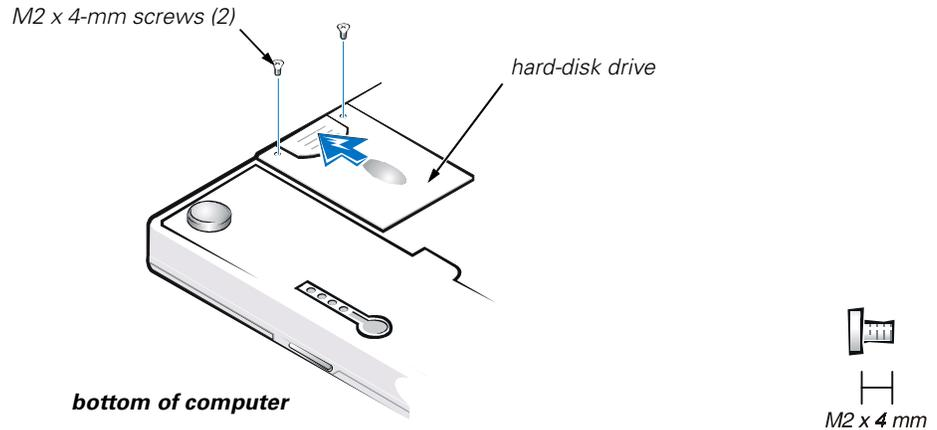

Figure 6. Hard-Disk Drive Assembly Removal
1. Turn the computer over, and remove the two M2 x 4-mm screws from the bottom of the hard-disk drive door (see Figure 6).